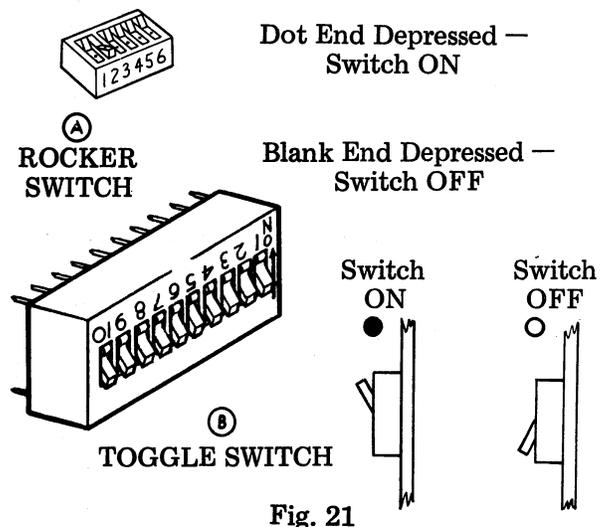

Fig. 21
2.32 A number of different switches have been used to option cards. Fig. 21 shows rocker switches (A), and toggle switches (B), and their respective ON/OFF positons.